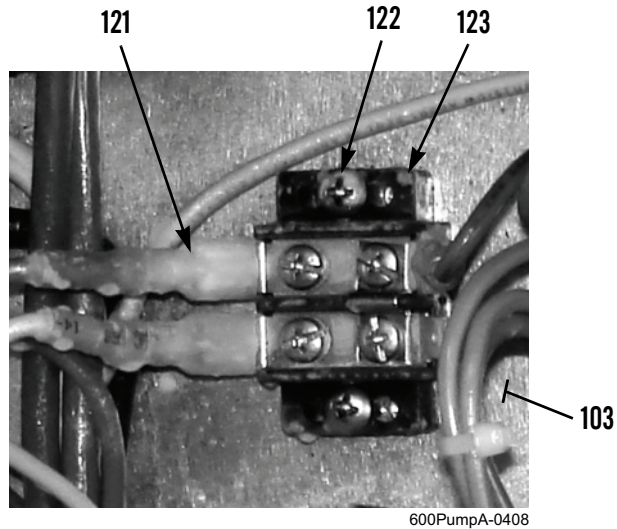

Figure 33. Two-Gang Terminal Block.
1. Disconnect three wires (Figure 33, Item 121) from two-gang terminal block (Figure 33, Item 123).
2. Remove two screws (Figure 33, Item 122) and two-gang terminal block (Figure 33, Item 123) from inside circuit board panel (Figure 33, Item 103).
1. Install two-gang terminal block (Figure 33, Item 123) on inside circuit board panel (Figure 33, Item 103) with two screws (Figure 33, Item 122).
2. Install three wires (Figure 33, Item 121) on two-gang terminal block (Figure 33, Item 123).